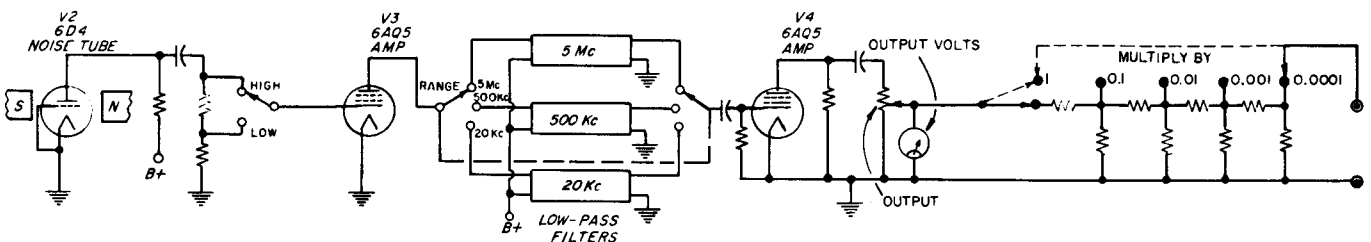

Figure 2. Elementary Circuit Diagram.
**2.1 GENERAL.** (See Figure 2.) The Type 1390-B Random-Noise Generator uses a gas-discharge tube as its noise source. A transverse magnetic field is applied to the tube to eliminate the oscillations usually associated with a gas discharge and to increase the noise level at high frequencies1. The noise output from the gas tube is amplified in a two-stage amplifier. Between the first and second stages the noise spectrum is shaped in one of three different ways, depending on the setting of the RANGE switch. At the 20-kc position, a low-pass filter is inserted, which has a gradual roll-off above 30 kc, with the audio range to 20 kc uniform in spectrum level. At the 500-kc setting, a low-pass filter is inserted, which rolls off above 500 kc. At the 5-Mc setting, a peaking network is used. This network approximately compensates for the drop in noise output from the gas tube at high frequencies, so that a reasonably good spectrum is obtainable to 5 Mc.